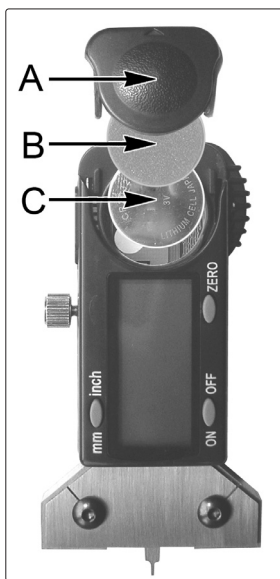

fig.2
5.1.1. Remove battery cover (fig.2.A) by sliding it backwards and lifting off.
5.1.2. Remove rubber spacer (fig.2.B) and exhausted battery (fig.2.C) and fit replacement with +ve side uppermost. Place the rubber spacer on top of the battery and press it into the recess. Slide the cover back into place. Dispose of old battery in a safe and approved manner. If the display fails to alter when the slide is moved, remove the battery, wait at least 1 minute and then refit the battery.